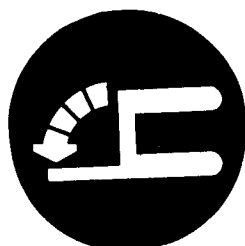

Figure 1-11.
4. Pulling of the mast pivot control lever towards the operator produces a counterclockwise rotating action of the mast assembly. Pushing of the mast pivot control lever away from the operator produces a clockwise rotating action of the mast assembly. (Figure 1-11).